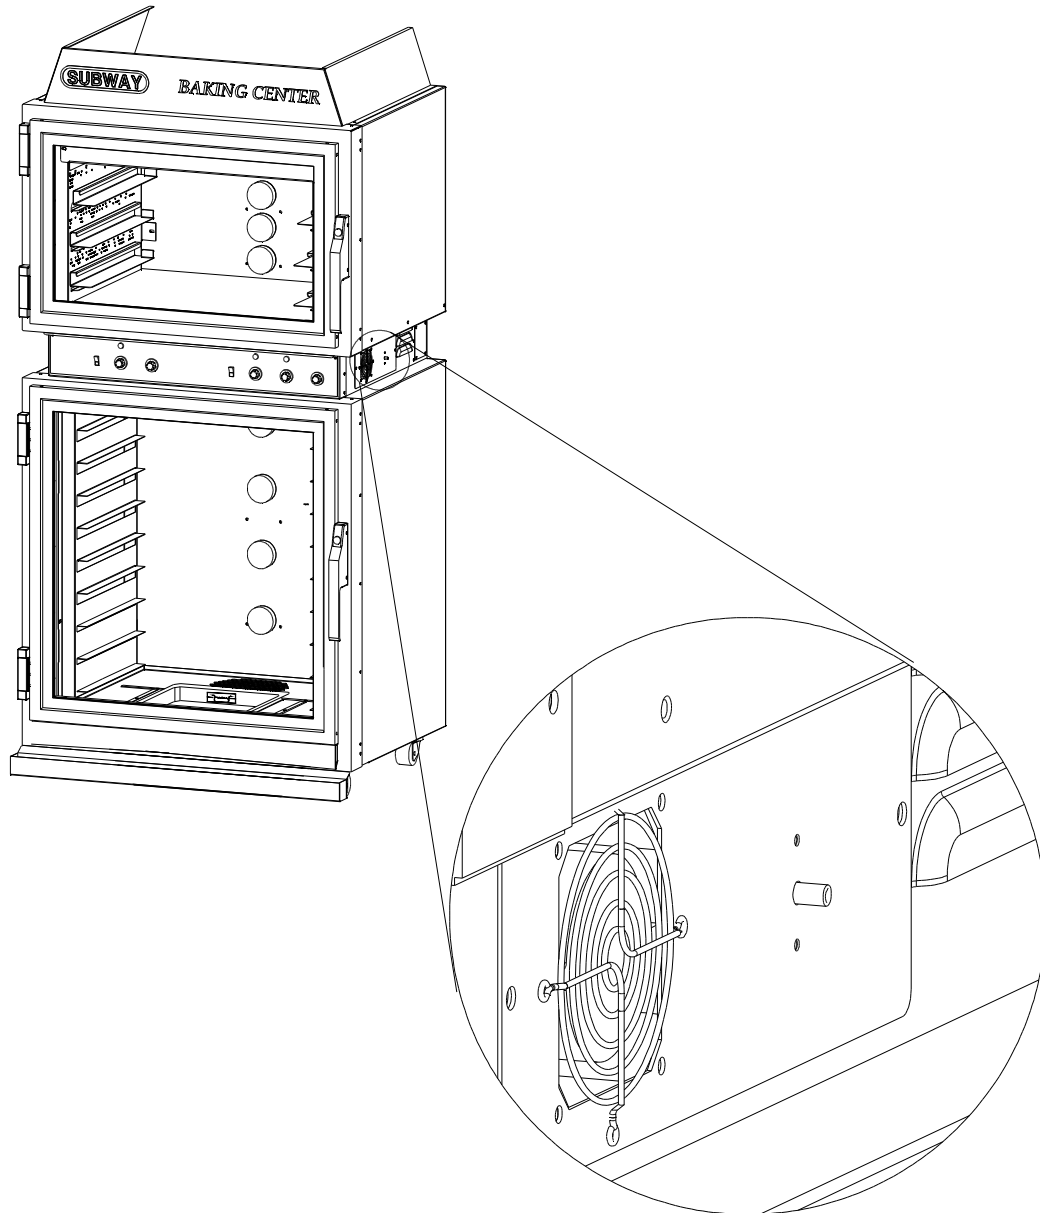

Figure 1.3 Thermal Cutout Reset Button
- **Thermal Cutout Reset Button** – Ensure **Thermal Cutout** is set by pressing reset pushbutton on right side of the oven. See figure 1.3 on page 6 for location.